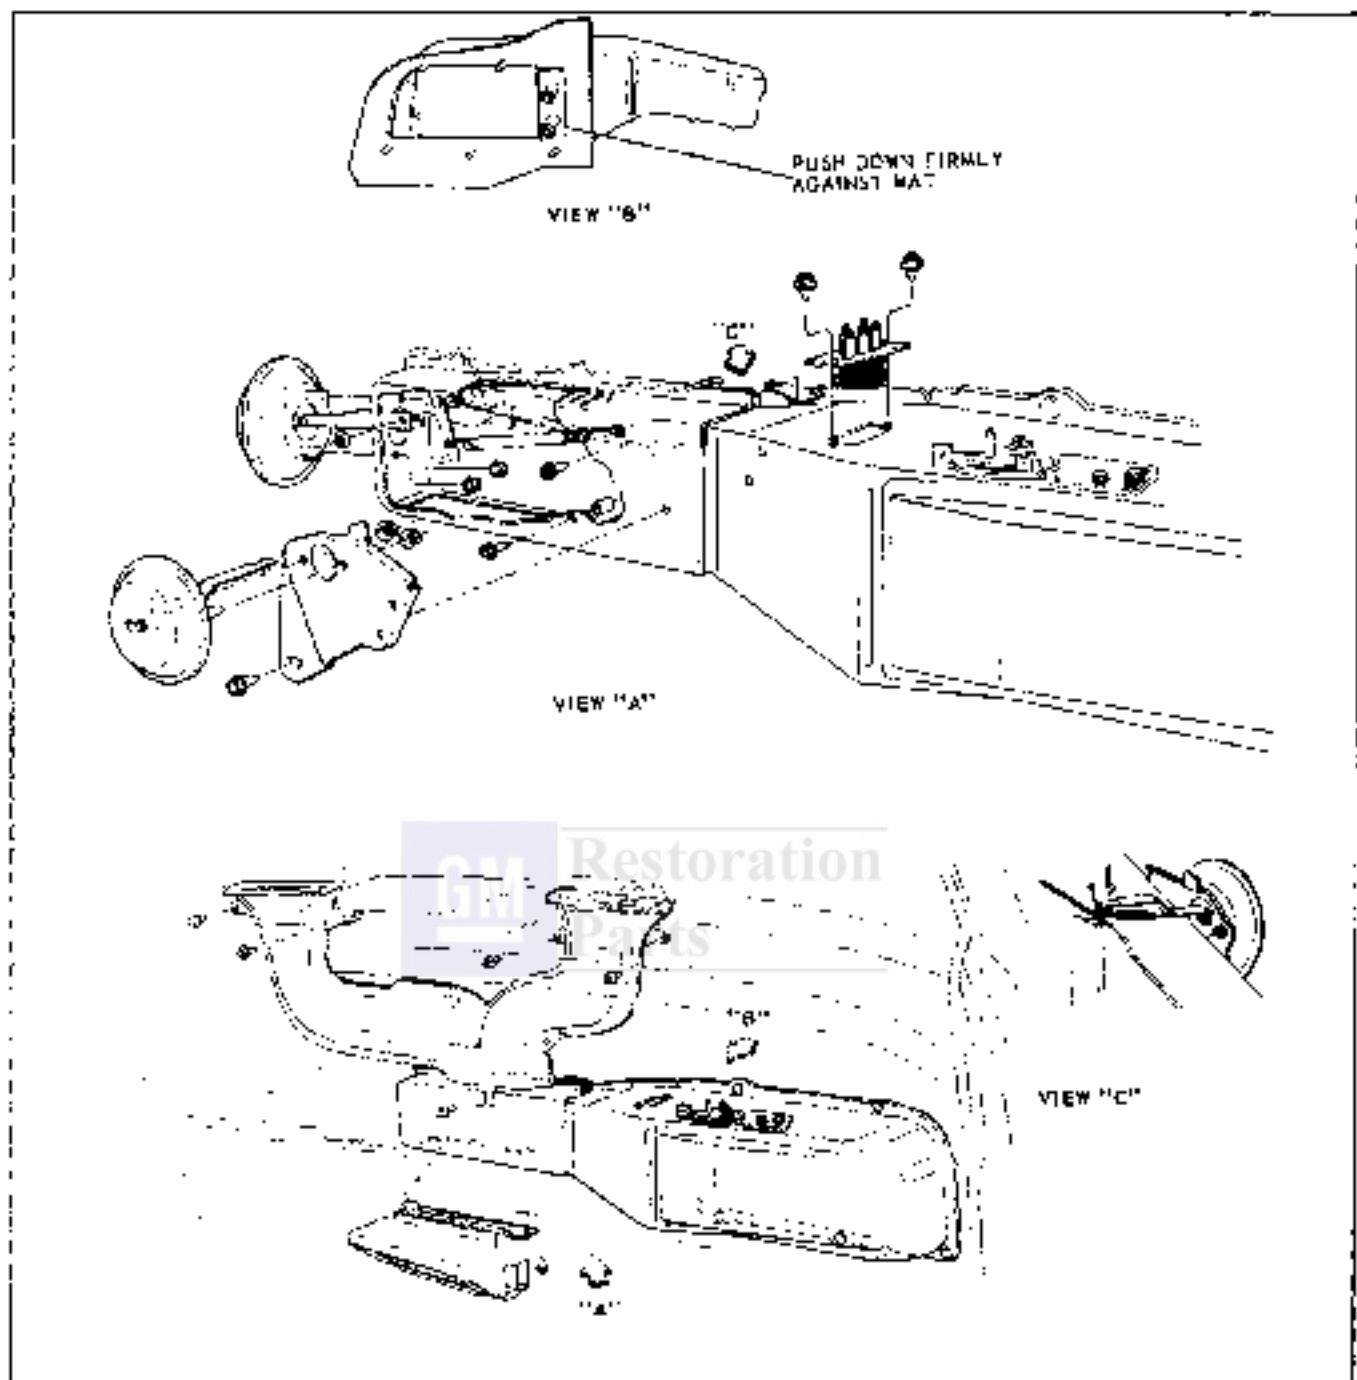

Fig. 1-6 Cont of Depinning -Fenders
1. Remove blue vacuum supply hose from diaphragm (Fig. 1-6).
1. Remove green supply hose (Fig. 1-6).